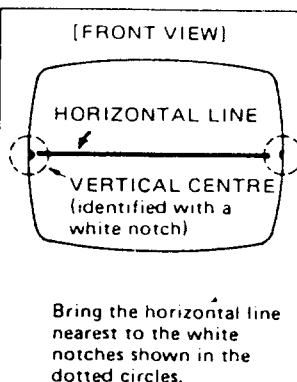

Fig. B-5
6. Check the vertical center position by displaying a horizontal line. Unless correct, bring it to the center by rotating the two tabs, kept at an angle, together in either direction. (Fig. B-5, 6).